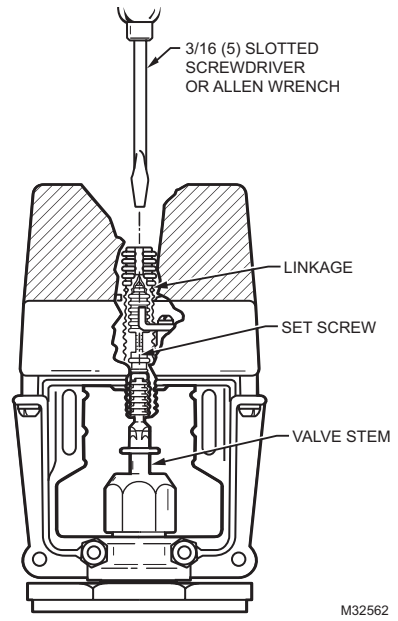

Fig 6. Locking ML7984A drive shaft to valve stem.
6. Depends on which type of set screw was used, with a 5 mm (3/16") Slotted screwdriver or 1/8"x 6" Allen wrench (included in the plastic bag), tighten the set screw to lock valve stem in place (Fig 6).